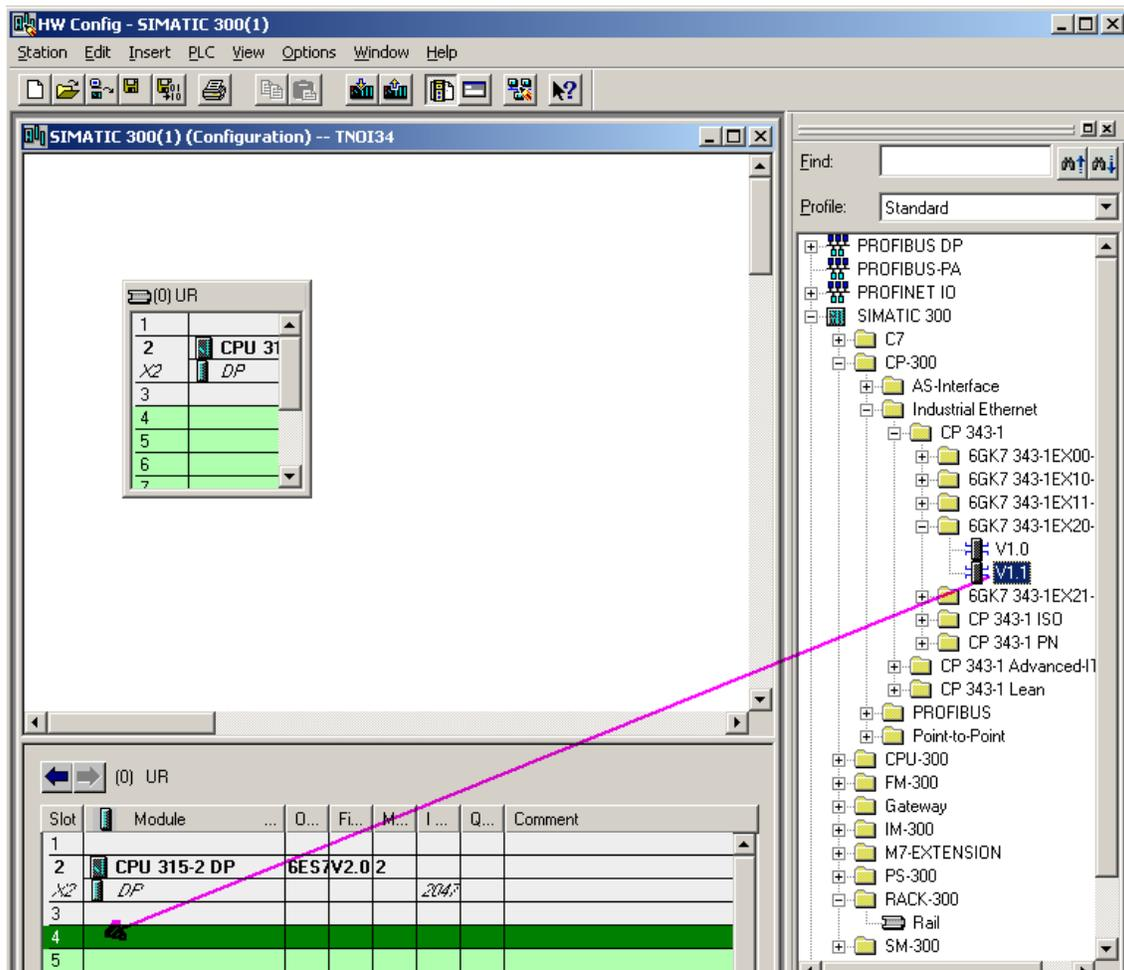

Figure 10.
2. Select SIMATIC 300 from the tree in the left -hand pane and then double click the Hardware symbol in the right-hand pane to access the HW Config screen (Figure 10).
- Once in HW Config, browse the object library on the right-hand pane to find the optional Ethernet card CP343-1. Drag and drop the card to an available slot, as shown in Figure 10.